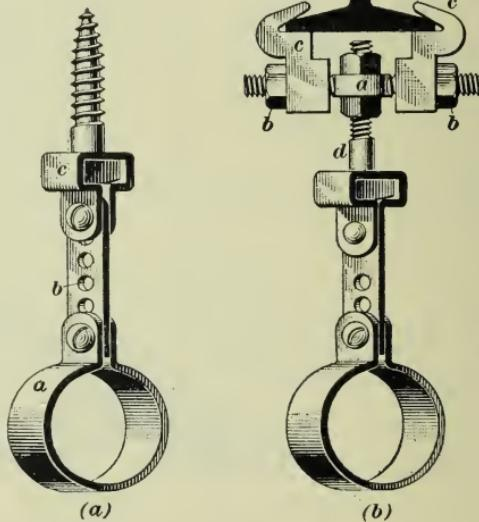

FIG. 58
**80.** Fig. 58 (*a*) shows the **Ideal pipe hanger**. This is a strong, although light-looking, hanger made of flat steel. The clamp *a* is sprung over the pipe and clamped to the perforated bar *b*, which in turn is clamped to a steel socket *c* enclosing a bolt or lag screw. It can be adjusted by the flat perforated bar *b*, which is cut off to suit. A beam clamp, as shown in Fig. 58 (*b*), is used for clamping the hanger to iron and steel beams. It is made entirely of steel; the adjusting bar *a* is fitted with locknuts *b*, *b* on each end for holding the toes or hooks *c*, *c* around the beam and at the same time obtain an easy sidewise adjustment. A fine vertical adjustment is obtained by means of the bolt *d*.